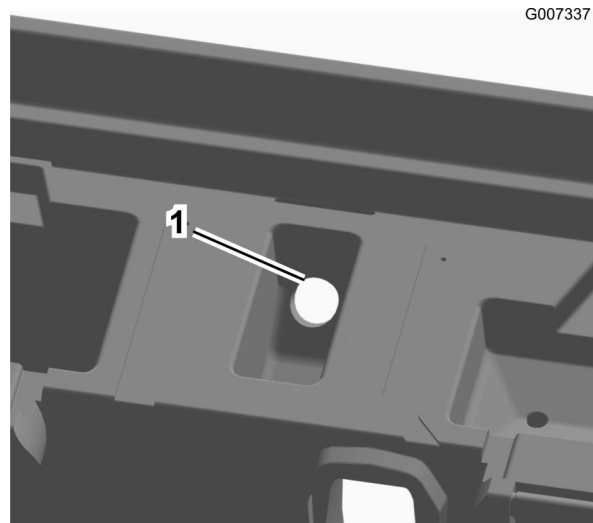

Figure 2
- B. Using a hole saw, drill a 2 inch hole in the rear of the depression on approximately 45 degree angle pointing down and to the rear of the machine (Figure 2).